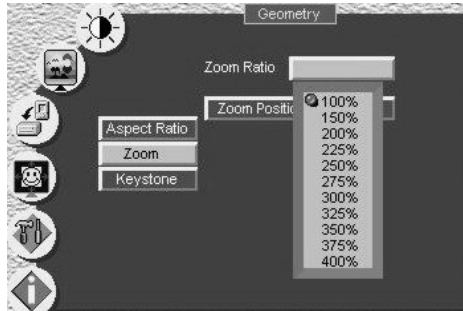

Figure 32: Geometry (Zoom Ratio) Screen
- Using the OSD Menu buttons, as Figure 32 illustrates